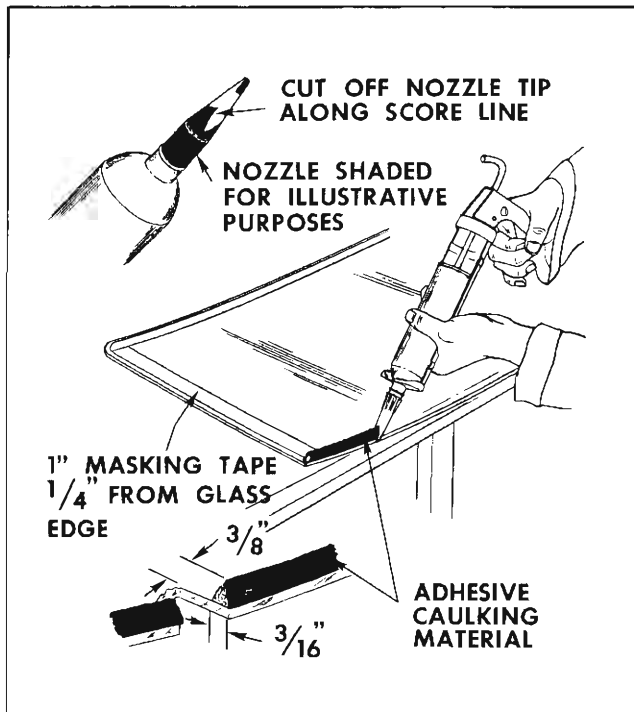

Fig. 13-16 Application of Adhesive Caulking
9. Beginning at a corner, apply 1" masking tape completely around edge of glass inner surface 1/4" inboard from outer edge (Fig. 13-16).
12. Cut off tip of one nozzle along score line (Fig. 13-16). This nozzle will be used to apply bead of adhesive caulk material to glass. Cut tip off other nozzle at a 45° angle 1" below end of nozzle. This will be used to apply smear bead of adhesive caulk material to pinchweld flange.
16. Positioning gun and nozzle as shown in Fig. 13-16, carefully apply a smooth continuous bead of caulk material 3/8" high by 3/16" wide at base completely around inside edge of glass. When material in first tube is dispensed, quickly insert second tube and continue application of bead.